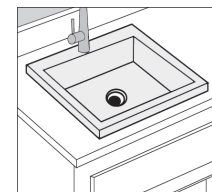

Figure 6
- After the sink is positioned and securely in place, place the plumber's putty around the underside of the faucet body or its mounting plate and install it into the sink (Figure 6).